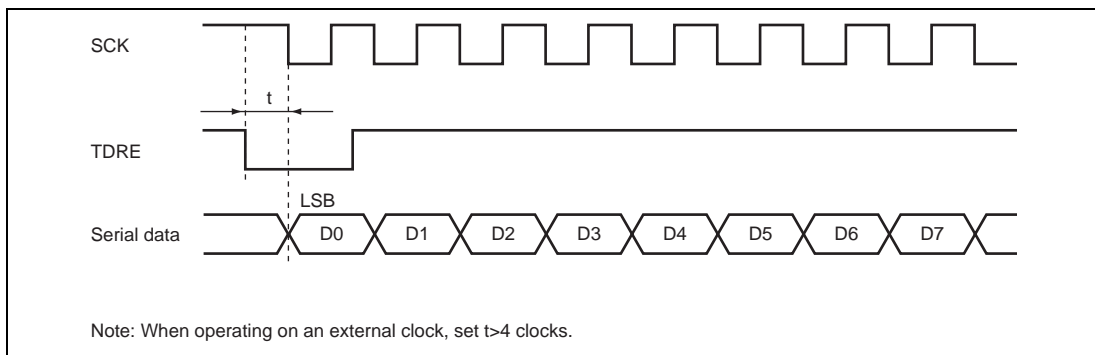

Figure 12.38 Example of Clocked Synchronous Transmission by DMAC
- When an external clock source is used as the serial clock, the transmit clock should not be input until at least 5 ϕ clock cycles after TDR is updated by the DMAC. Misoperation may occur if the transmit clock is input within 4 ϕ clocks after TDR is updated. (figure 12.38)